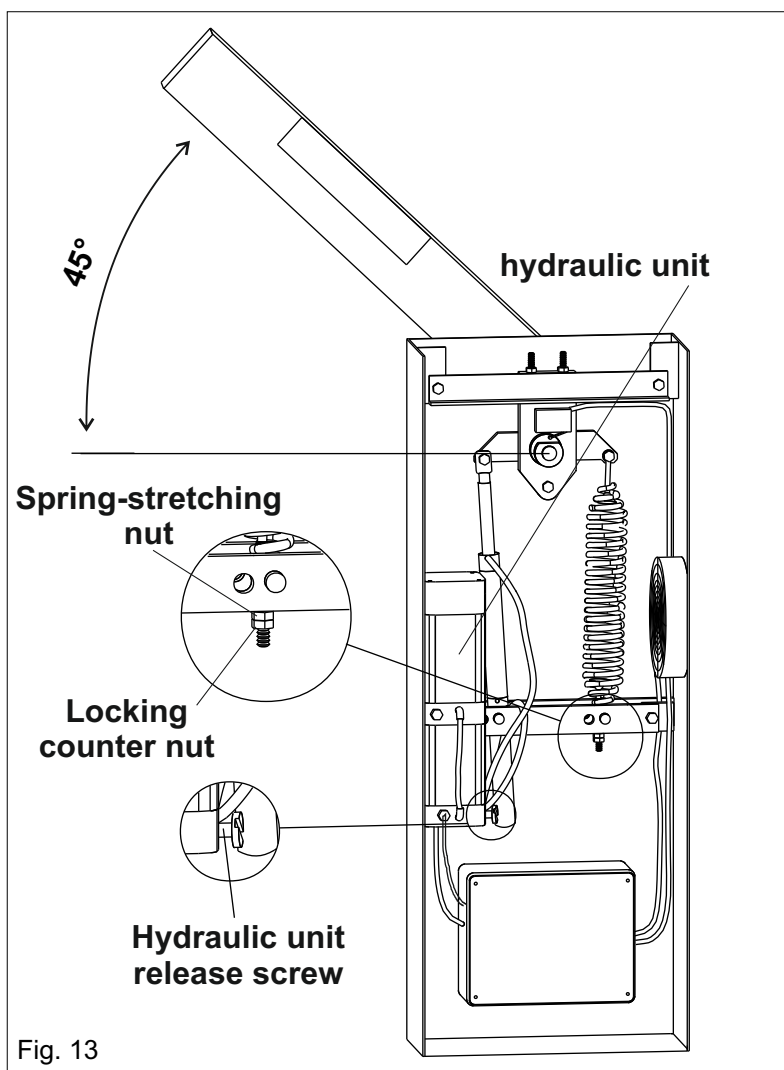

Fig. 13
- Release the operator with manual release, so that beam is free to be open and closed manually (Fig. 13)
- Loosen or tighten the spring stretching nut until the spring counterbalances the weight of the 45° beam (Fig. 13). The best balancing position is when the beam reaches and stays in the position shown in Fig. 13